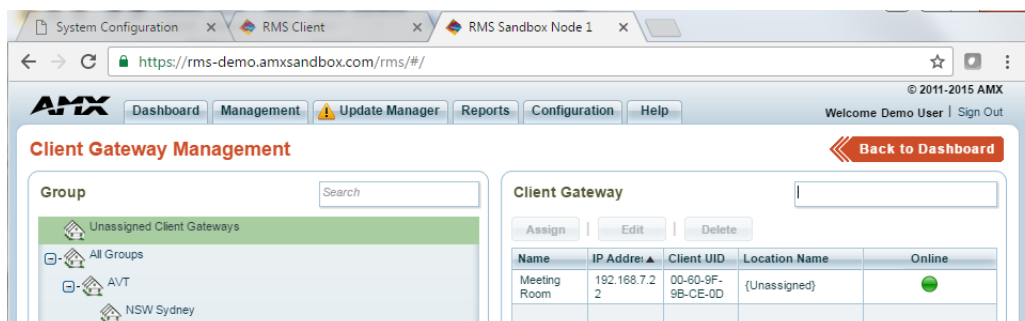

FIG. 485 RMS Enterprise - Client Gateway Management
- To verify the connection on the RMS server browse to the RMS servers' web page and select **Unassigned Client Gateways** under *Client Gateway Management* (FIG. 485):